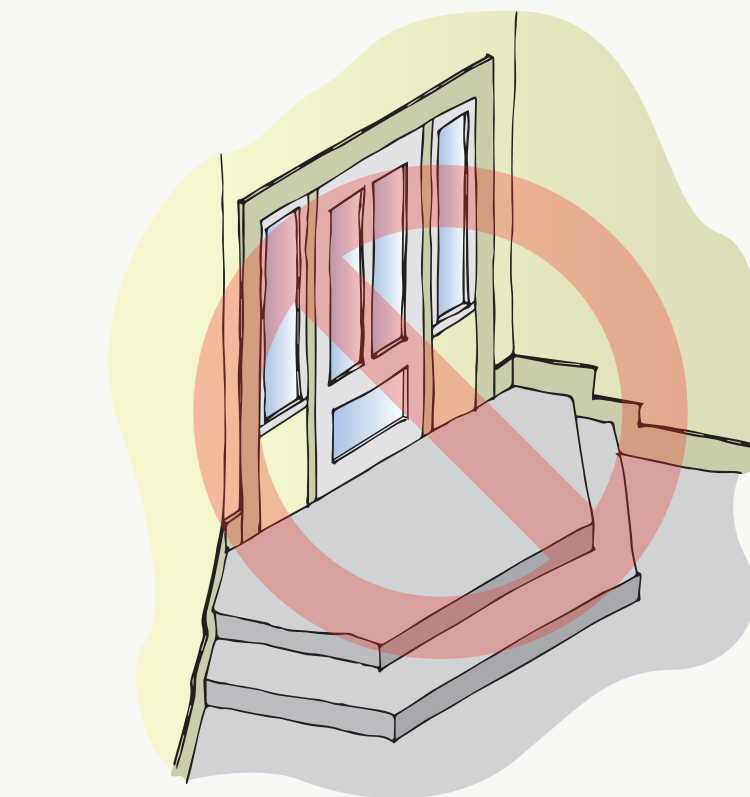

Figure 38
- avoiding small changes of level or, if this is not possible, avoidance of angles or curves at tread edges or corner steps (see Figure 38)